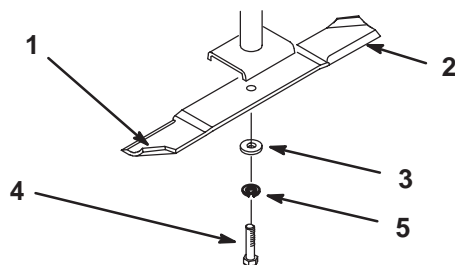
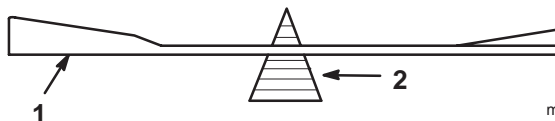

Figure 28
Figure 30
Hold the blade end using a rag or thickly-padded glove. Remove the blade bolt, flat washer, split lockwasher and blade from the spindle shaft (Fig. 28).
2. Check the balance of the blade by putting it on a blade balancer (Fig. 30). If the blade stays in a horizontal position, the blade is balanced and can be used. If the blade is not balanced, file some metal off the end of the sail area only (Fig. 28). Repeat this procedure until the blade is balanced.
1. Install the blade onto the spindle shaft (Fig. 28).
2. Install the flat washer, lock washer and blade bolt (Fig. 28). Torque the blade bolt to 85–110 ft-lb (115–150 N•m).